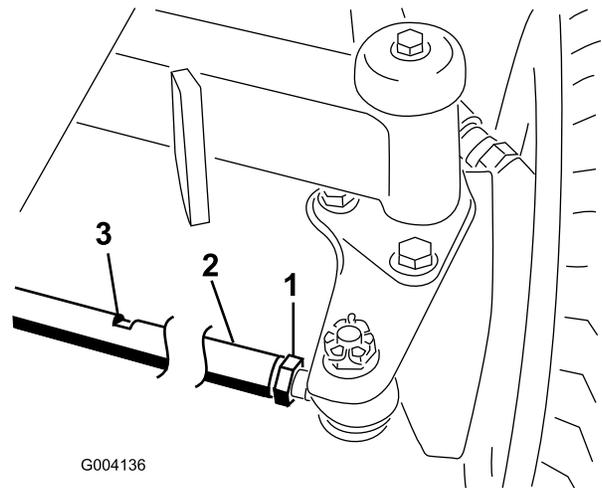

Figure 63
2. Loosen the jam nut on each end of the tie rod (Figure 63).